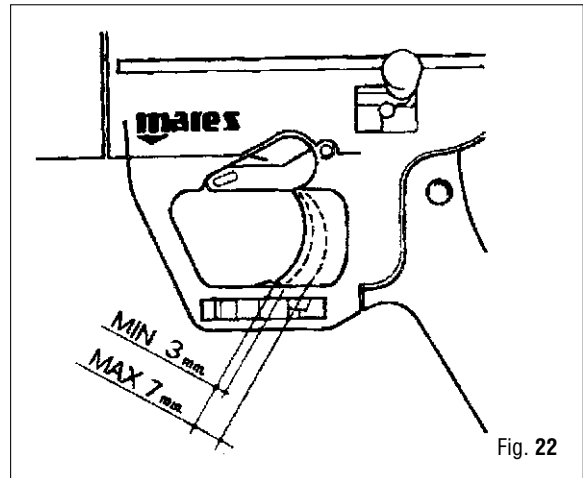

Fig. 22
1. Position the line retainer (12) and washer (14) on the shaft as shown in fig. 22.
FOR CORRECT TRIGGER RELEASE SENSITIVITY, THE TRIGGER STROKE SHOULD BE SET FROM 3 MM MINIMUM (Fig. 22). WHENEVER TRIGGER SENSITIVITY IS ADJUSTED, MAKE SURE THAT THE PISTON FULLY ENGAGES THE CATCH HOOK. OVER-ADJUSTMENT MAY CAUSE THE PISTON NOT TO ENGAGE OR TO PARTIALLY ENGAGE THE CATCH HOOK AND MAY CAUSE THE SPEARGUN TO DISCHARGE UNEXPECTEDLY WHICH MAY CAUSE SERIOUS INJURY OR DEATH.